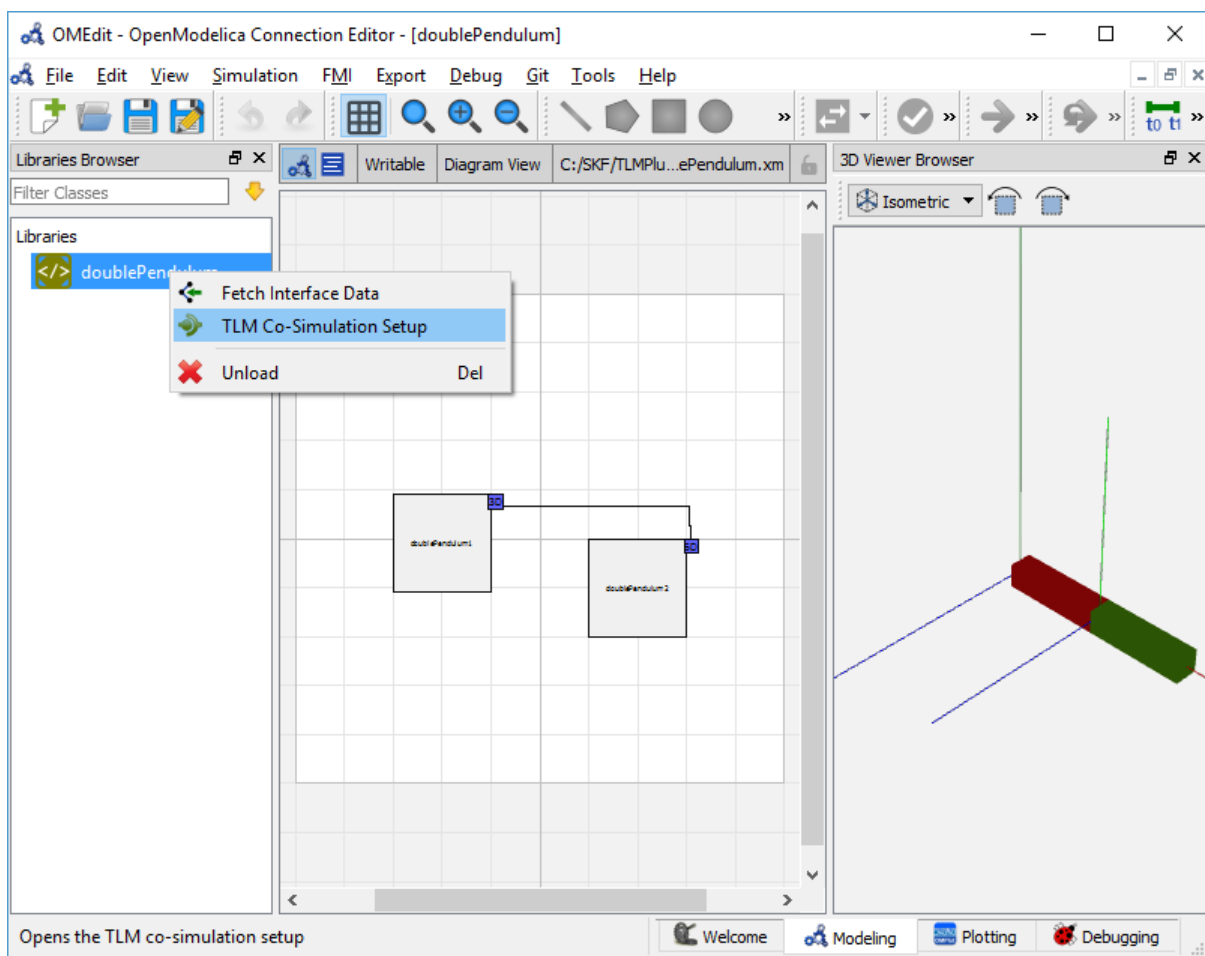

Figure 7.3: Co-simulating and Fetching Interface Data of a composite model from the Pop-up Menu .
- Right click the composite model in the **Libraries Browser** and choose **TLM Co-Simulation setup** from the popup menu (see Figure 7.3)
- Right click the composite model in the **Library Browser** and choose **Fetch Interface Data** from the popup menu (see Figure 7.3).